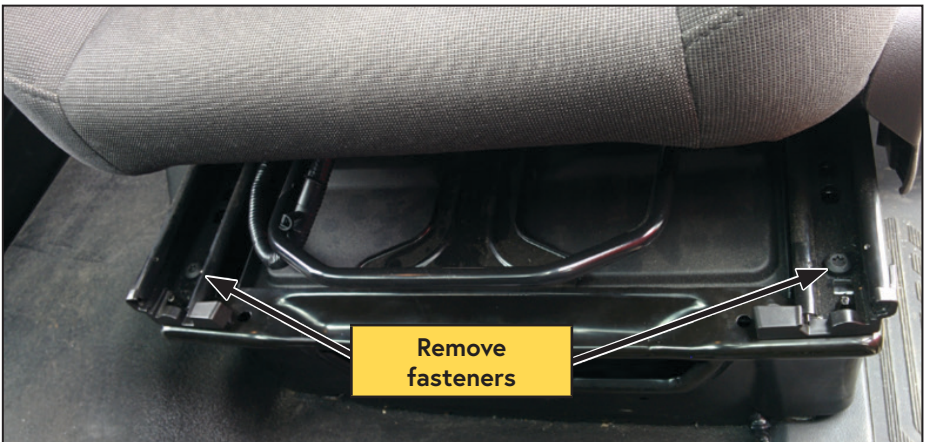

Figure 1 — Driver seat (front)
- Move the driver seat completely to the rear and remove the (x2) front fasteners (Figure 1).